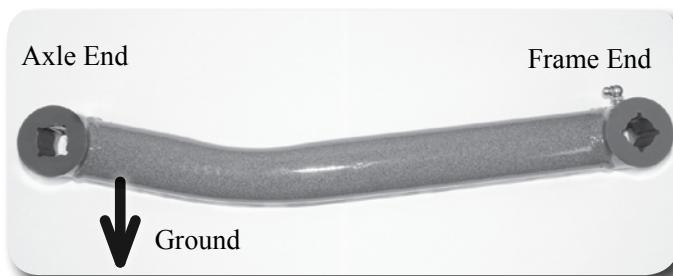

Figure 1
3. Locate the new lower control arms (4 total), control arm bushings, control arm sleeves (3/4" OD x 2.620" long) and provided grease fittings **Figure 1**. Apply grease to the bushings/sleeves and install them in each control arm end. Install the grease fitting in the threaded holes located in each control arm end. One straight and one 90 degree fitting will be used for each arm with the straight fitting installed in the short end of the arm (short length after the arm bend). Ensure the 90 degree fitting is pointed toward the body of the control arm.